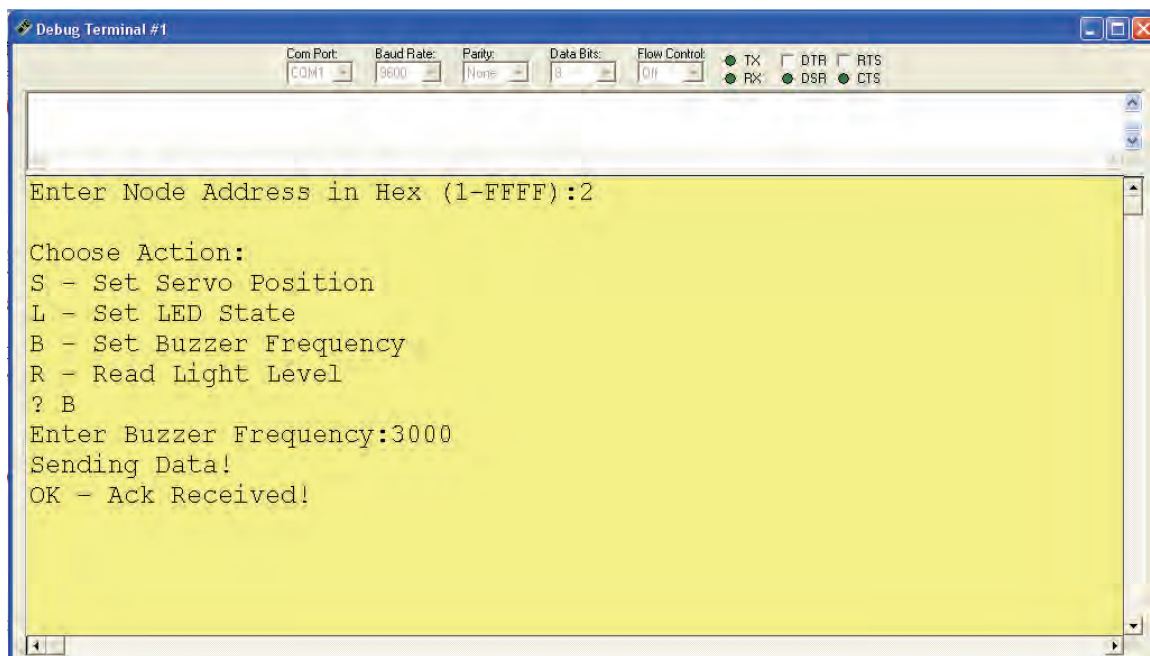

Figure 5-6: Manual Polling Debug Terminal
- ✓ Using the Debug Terminal's transmit pane (as shown in Figure 5-6), answer requested information using both used and unused Remote node addresses and monitor the Remote's actions and responses.